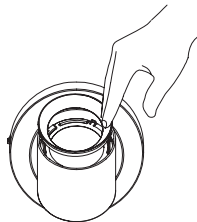

Fig 5
**Step 1:** Gently move front cap forward to remove it. (See Fig 5)